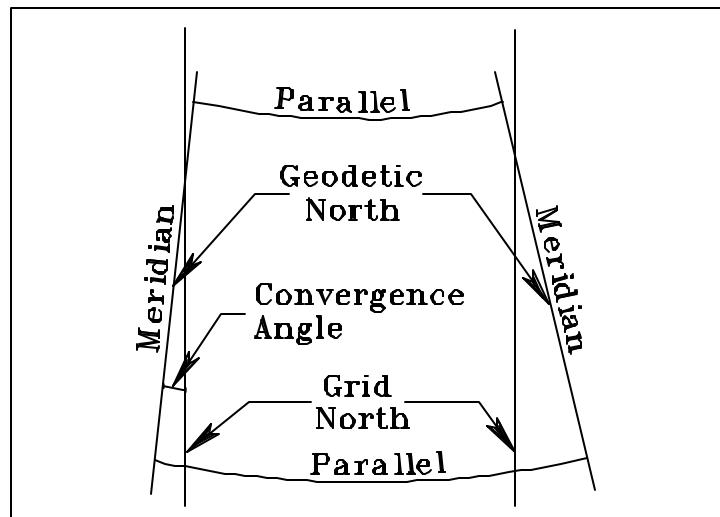
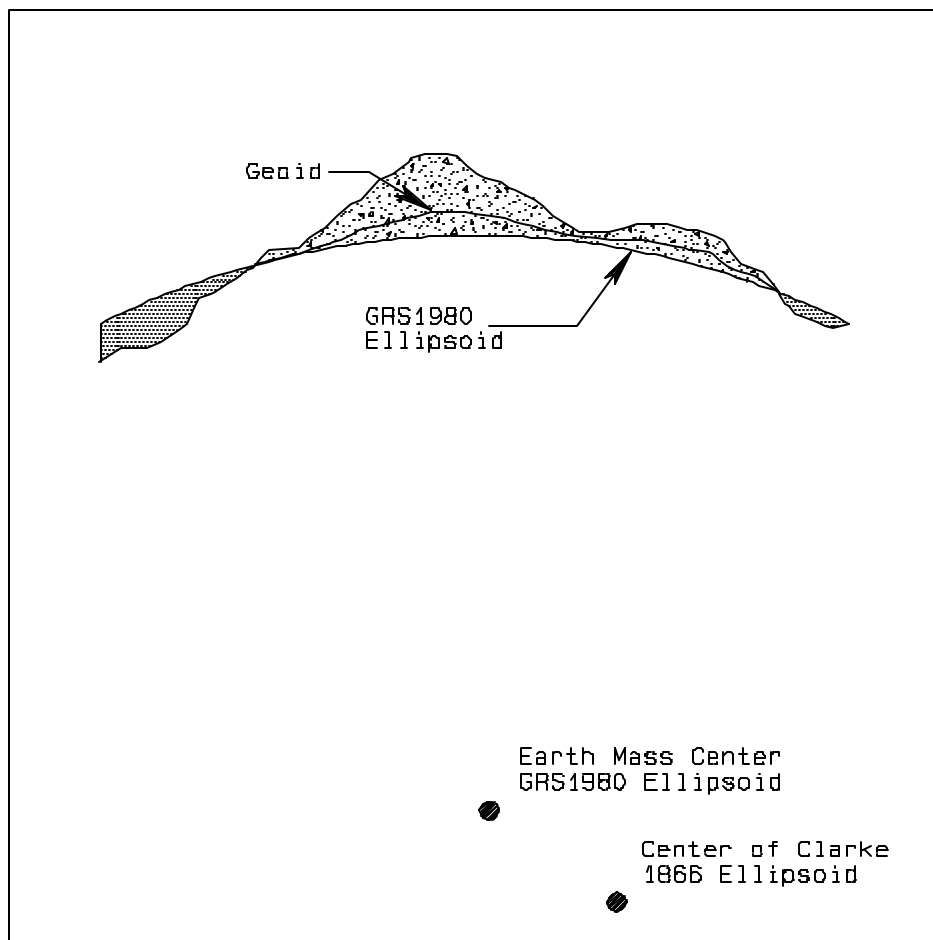

Figure13-4 Convergence or Mapping Angle
Figure 13-5 Clarke 1866 and Global Reference System of 1980 Ellipsoids
The choice of an earth-centered ellipsoid is a dramatic departure from older systems. Note that the position of the radius is definitely not the same in Figure 13-5:
Figure 13-5 shows the relationship between the Clarke 1866 and Global Reference System of 1980 ellipsoids. Only the center of the Clarke ellipsoid is shown.
You may also have noted that there is a "Geoid" line denoted in Figure 13-5. Although you can define an ellipsoid for the earth, the earth's surface will actually deviate somewhat from the mathematical figure. The "geoid" is the *mean sea level surface* used for most vertical elevation measurements such as contours. In other words, "geoid" is the name given to the shape that the earth would assume if it were all measured at mean sea level. As shown in Figure 13-4, the geoid is an undulating surface that generally varies by not more than about eighty (80) meters above or sixty (60) meters below an ellipsoid